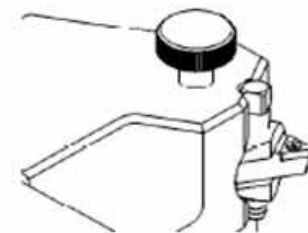

Fig.13
5. Using the cross slide handwheel, locate the tool bits at the inner surface edge and loosen lock knob (Figure 13).